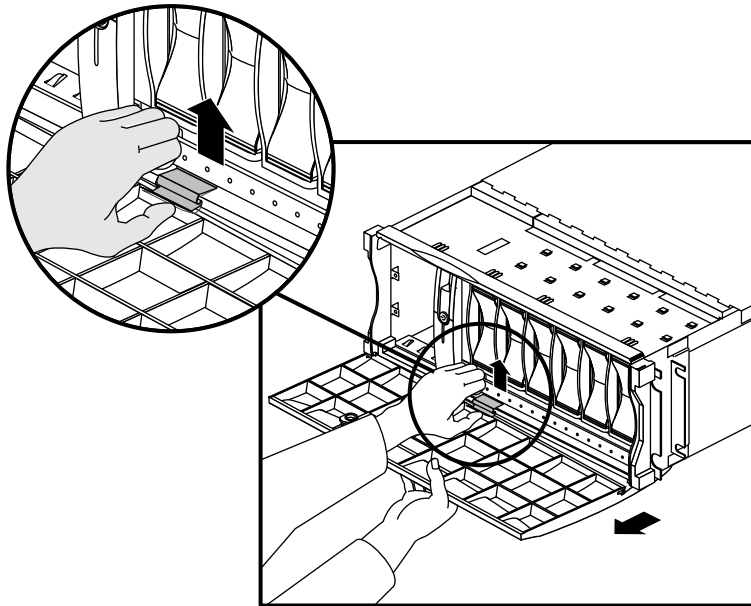

Figure 2-9 Removing the Front Door, Rackmount Configuration
- If the system is in a rackmount configuration, lift the door assist tab and pull the door off, as shown in Figure 2-9.